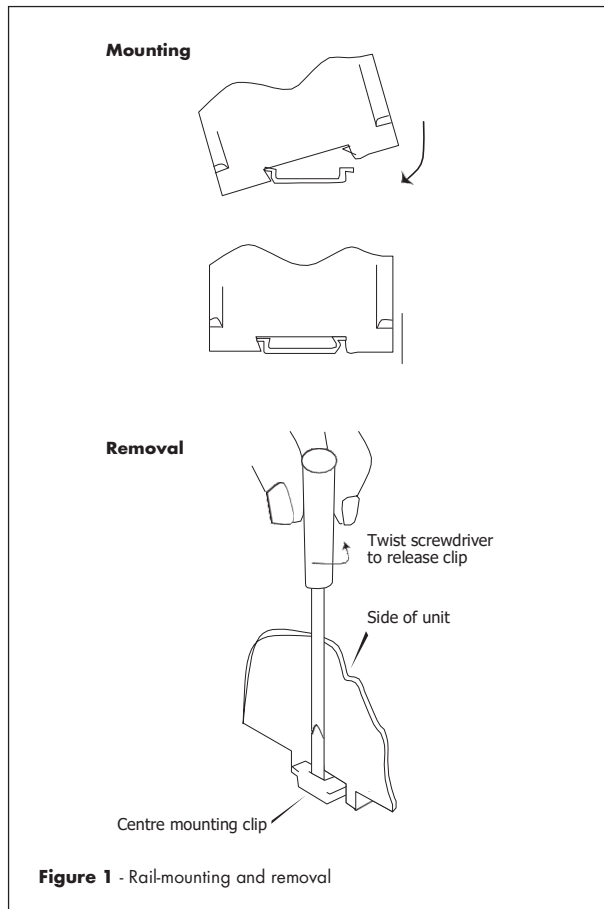

Figure 1 - Rail-mounting and removal
3.2.1 Mounting on T-section DIN-rail (Figure 1)